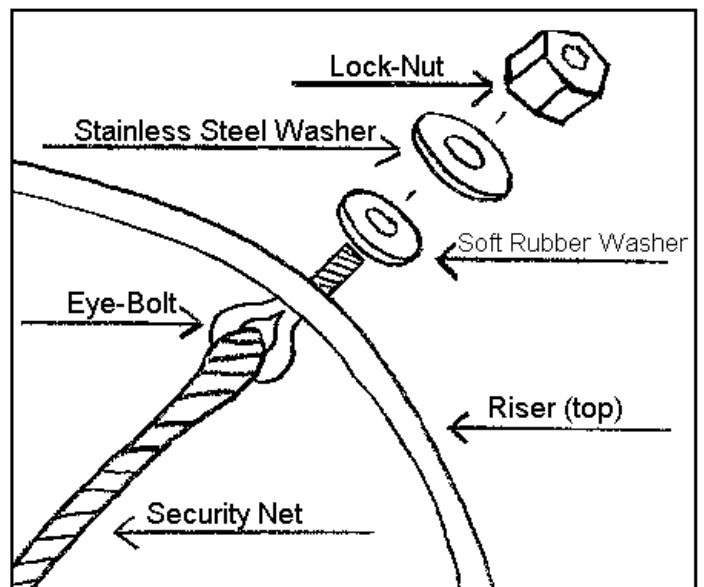

Figure 1.1
4. Inserting eye-bolts through 1/4" holes, first place 1/4" soft rubber washer over eye-bolt, followed by 1/4" stainless steel washer and 1/4"-20 stainless steel lock-nut (refer to Figure 1.1). A 7/16" deep well socket on a clutch equipped battery powered drill will speed up the assembly process.